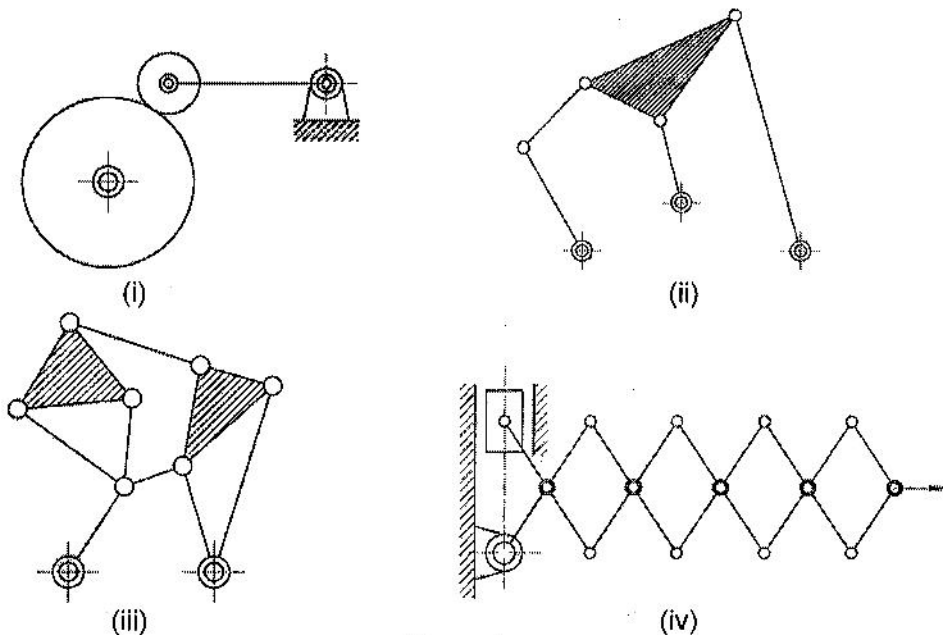

Figure 1
3. Find the degrees of freedom of the following mechanisms shown in the figure 1.